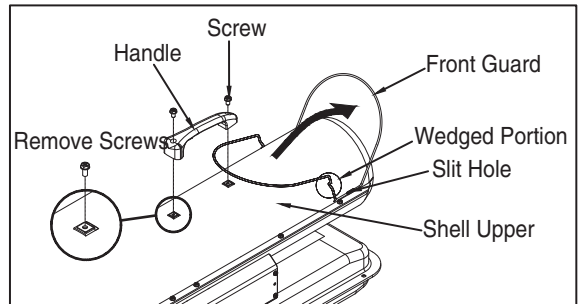

**Figure 6. Assembling Handle**
- 3) Align the holes in the upper housing with two mounting holes on the handle as shown in Figure 6.